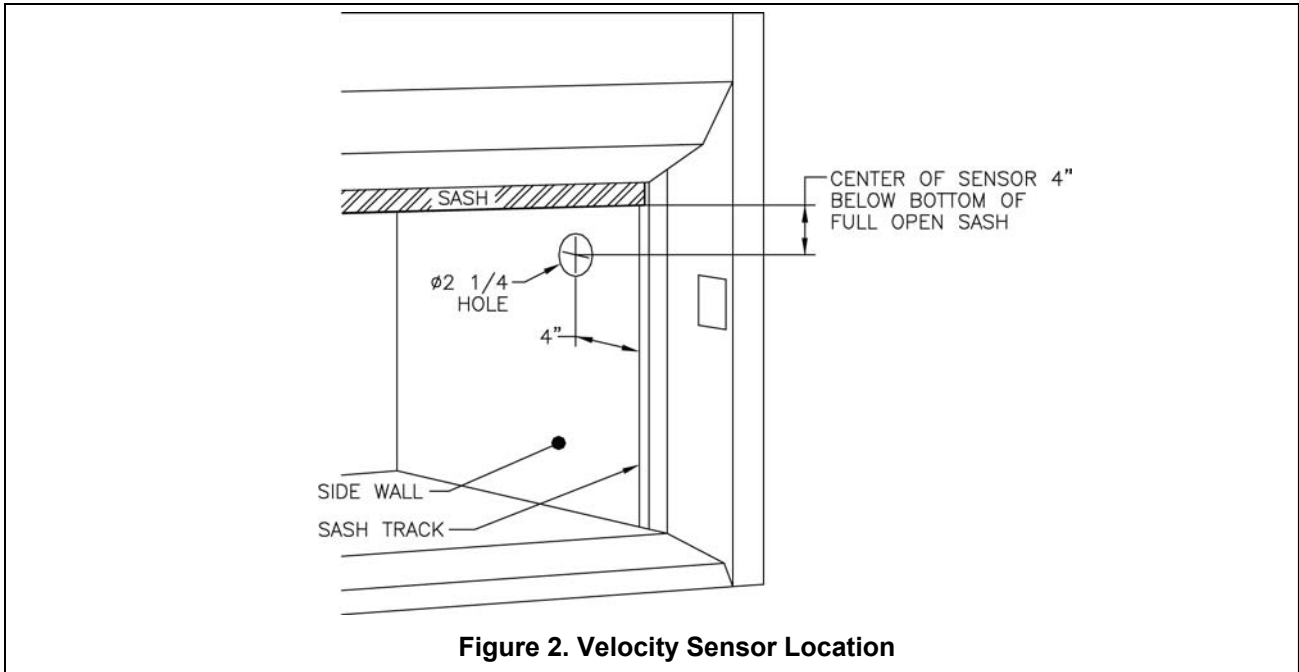

Figure 2. Velocity Sensor Location
- Determine VELOCITY SENSOR location. Use Figure 2 as a guideline.